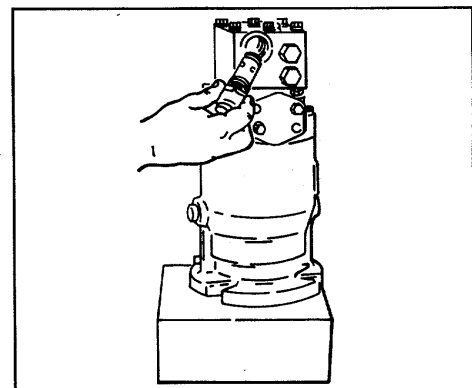

Figure 12.
2. Apply a lubricant to the O-ring and install valve in manifold block (refer to Fig. 12).